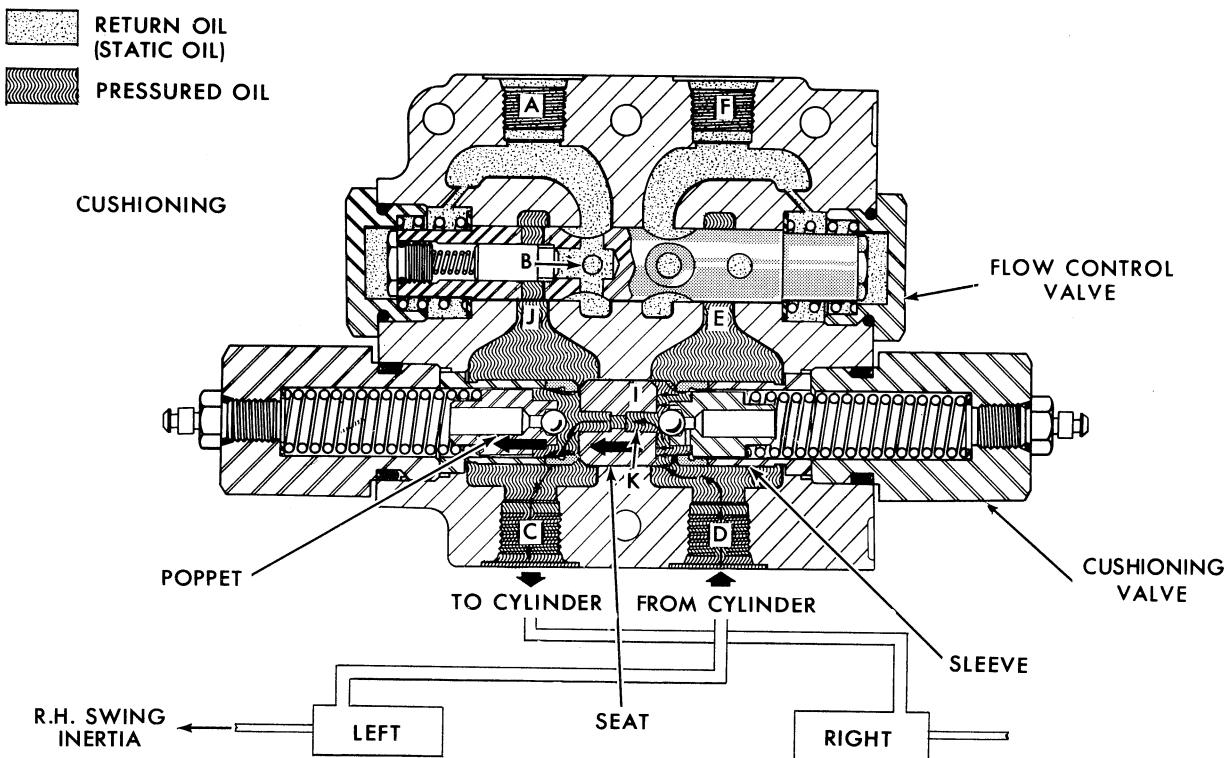

Figure 11
The position of the spool at initial cylinder loading is such that oil cannot return through the spool to port (F), Figure 11. The oil at (E), being unable to return to sump builds pressure back to port (A). As pressure builds to approximately 75 psi, oil at (G), Figure 10, forces the spool to slide down the bore and open port (E), as shown, allowing oil to return to port (F) and to the control valve.
**Cushioning Valve Action:** The cushioning valve, Figure 11, operates independently of the flow control valve, previously discussed, and functions when the oil flow to or from the swing cylinders has been cut off at the main control valve. Figure 11 represents a continuation of the right swing cylinder flow pattern shown in Figure 10 and is described as follows:
When the main control valve swing lever is returned to neutral, pressure in passage (A), Figure 11, of the flow control valve drops, and the spool at (B) returns